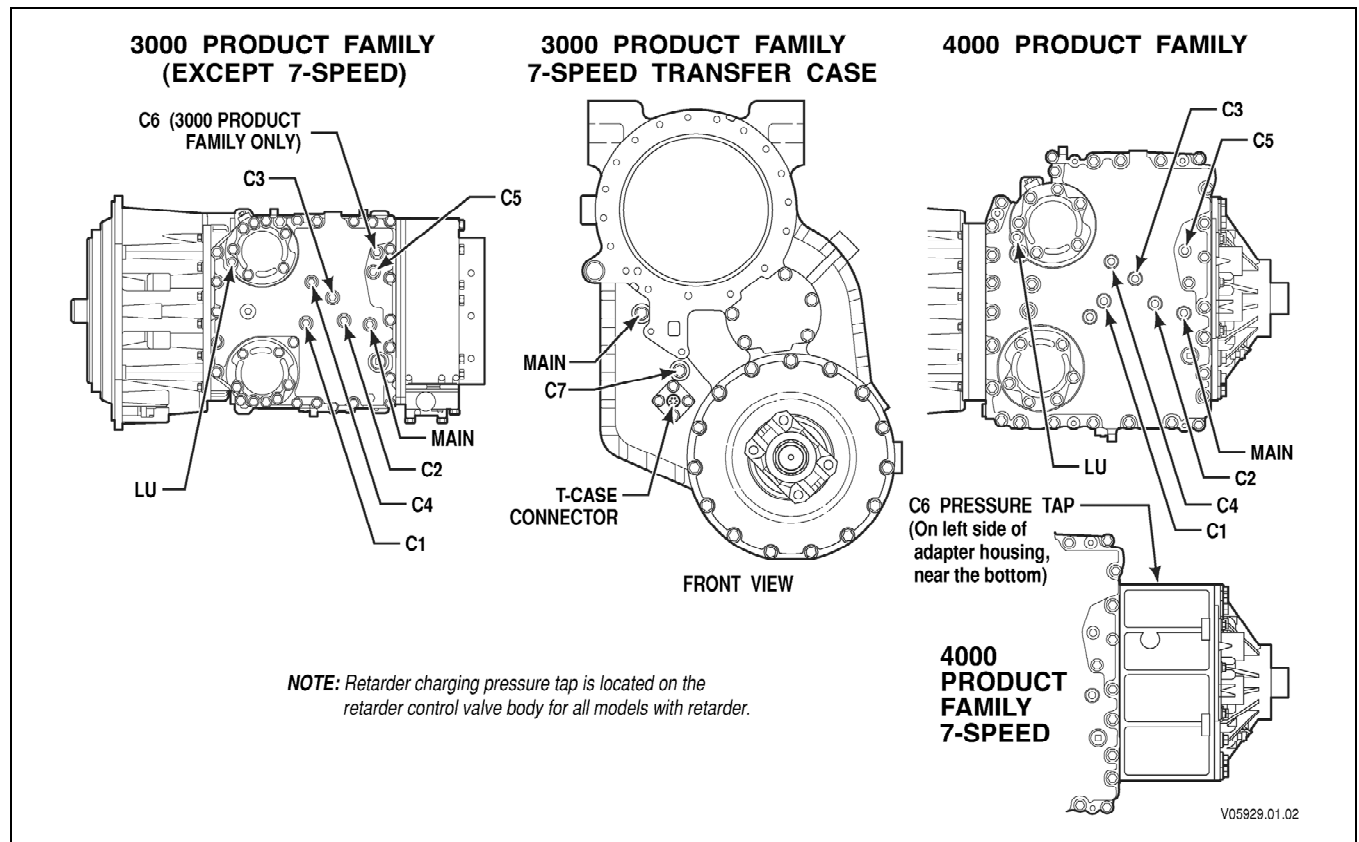

Figure 6-1. Clutch Pressure Check Points
1. Remove the plugs from the pressure tap locations where measurement is desired (Figure 6-1).